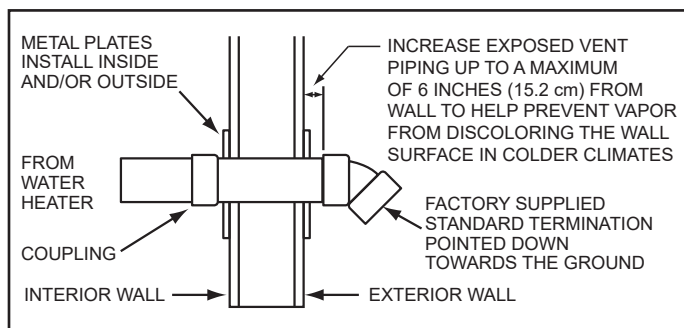

**Figure 35. Sidewall Termination Installation**
12. Working from outside, slide the pipe and termination(s) assembled in the above steps through the wall. Ensure that the termination(s) is pointed down towards the ground. See **Figure 35**.
16. Install a coupling to the end of the pipe(s) inside the building. Before the silicone caulking has time to completely set, go outside the building and ensure that the termination(s) is still pointing down towards the ground. See **Figure 35**.